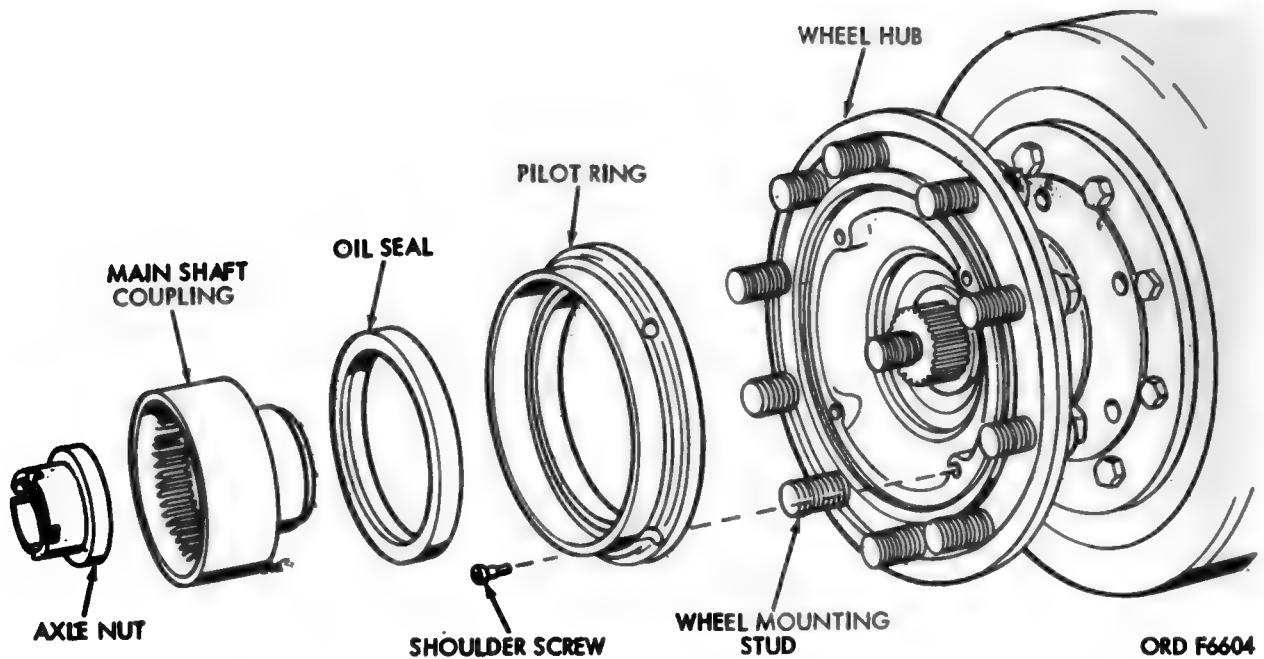

Figure 147. Removal or installation of wheel drive unit attaching parts (M123A1 only).
c. On the M128A1 howitzer, remove the axle nut (fig. 147) from the wheel spindle. Remove four shoulder screws securing the pilot ring to the hub and remove the pilot ring main shaft coupling and oil seal.
g. On the M123A1 howitzer, install the pilot ring (fig. 147) in hub and secure with four shoulder screws. Install the oil seal in the pilot ring and slide the main shaft coupling through the oil seal and onto the splines on the wheel spindle.